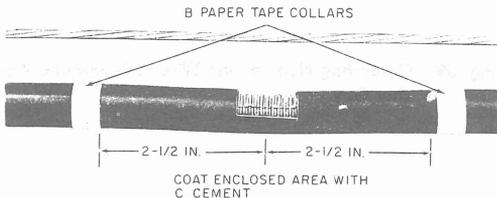

Fig. 41—Area Coated With Cement
- (b) Scuff the polyethylene sheath with the carding brush. Place B paper tape collars on the sheath, and coat the enclosed area with C cement. Allow 3 to 5 minutes drying time in warm weather and 5 to 10 minutes in cold weather (Fig. 41).